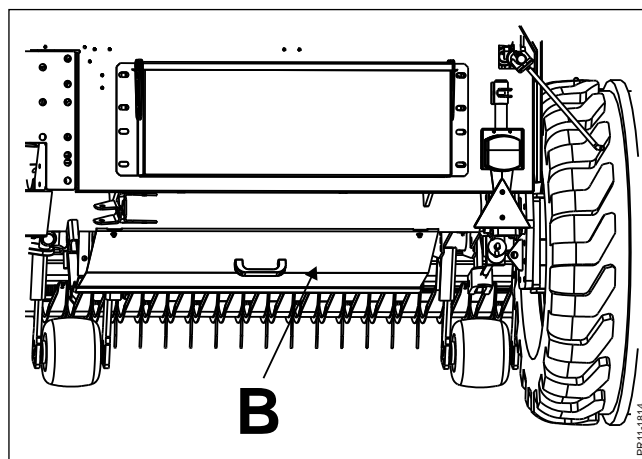

Fig. 4-19
**Fig. 4-19** The bottom plate **B** may be mounted beneath the roller section as an additional piece of equipment. This may be mounted when operating in very dry and/or short crops to avoid waste under the rollers.